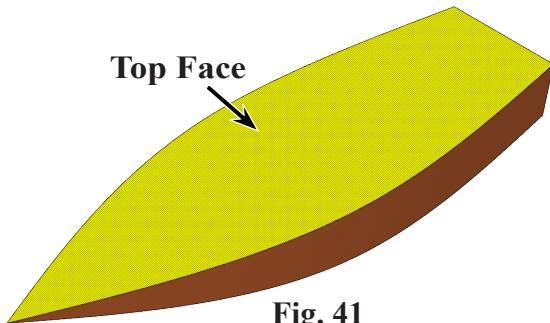

Fig. 41
Step 1. Rotate view to view **top of hull**, hold down middle mouse button (wheel) and drag to rotate view, **Fig. 41**.
Step 4. Click the top face of the hull, **Fig. 41** and click OK in the Solid Selection dialog box.